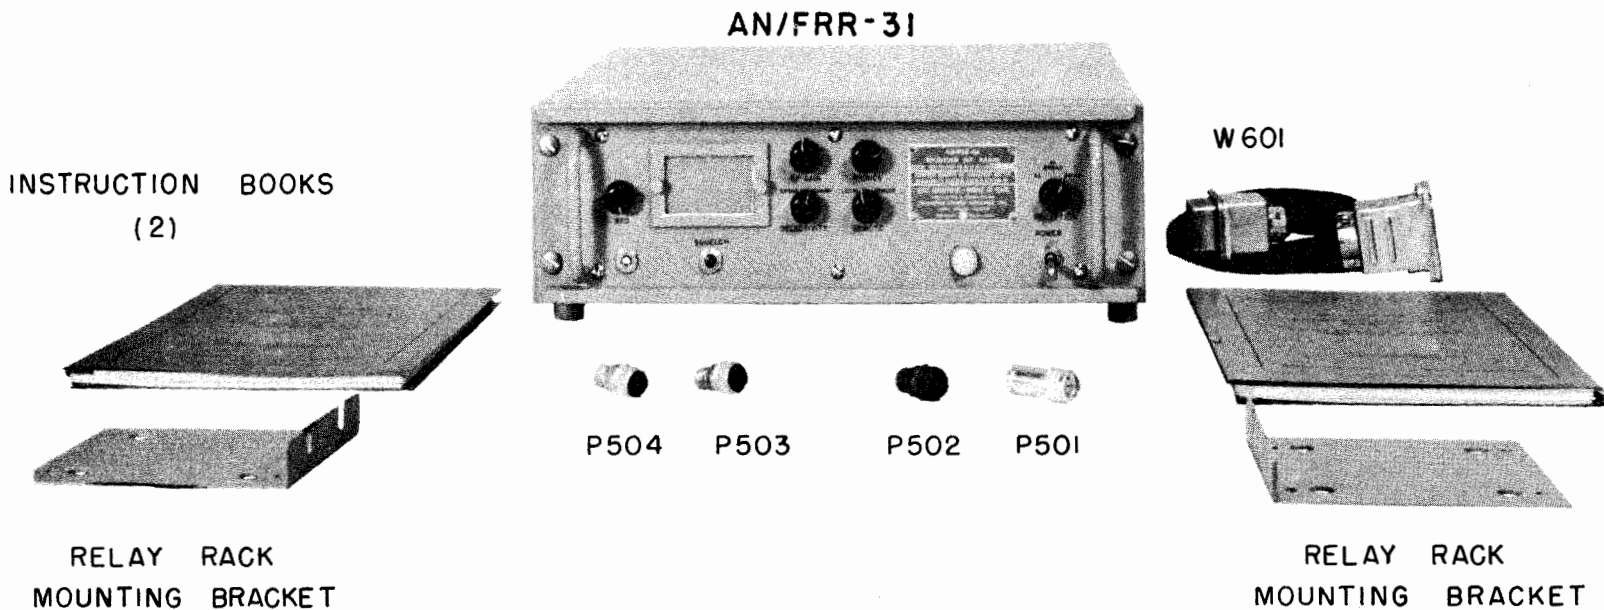

Figure 1-1. Radio Receiving Set AN/FRR-31 Complete, Including Radio Receiver R-777/FRR-31 Brackets, Plugs, Test Cable, and Instruction Books
c. EQUIPMENT ARRANGEMENT.—Radio Receiving Set AN/FRR-31 is shown complete in figure 1-1. It consists of the receiver proper (Radio Receiver R-777/FRR-31); a pair of auxiliary angle brackets for relay rack mounting; a set of four mounting legs for table or bench mounting (shown already mounted in place in figure 1-1), a test cable (W601) for connecting the receiver chassis with the rear filter compartment during alignment; four plugs for use in fabricating external cables to the receiver; and two copies of the instruction book.